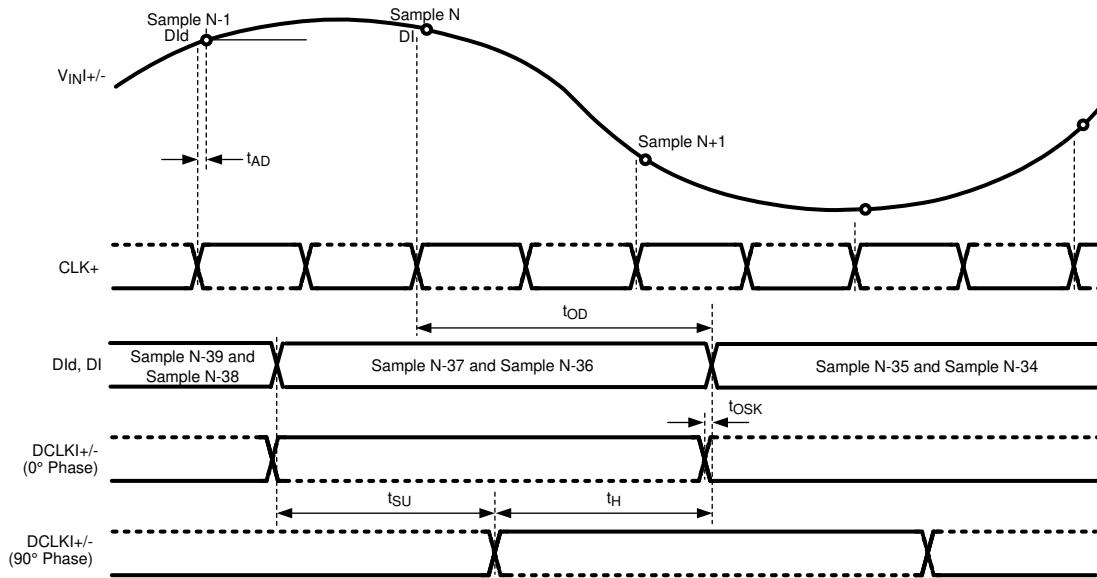
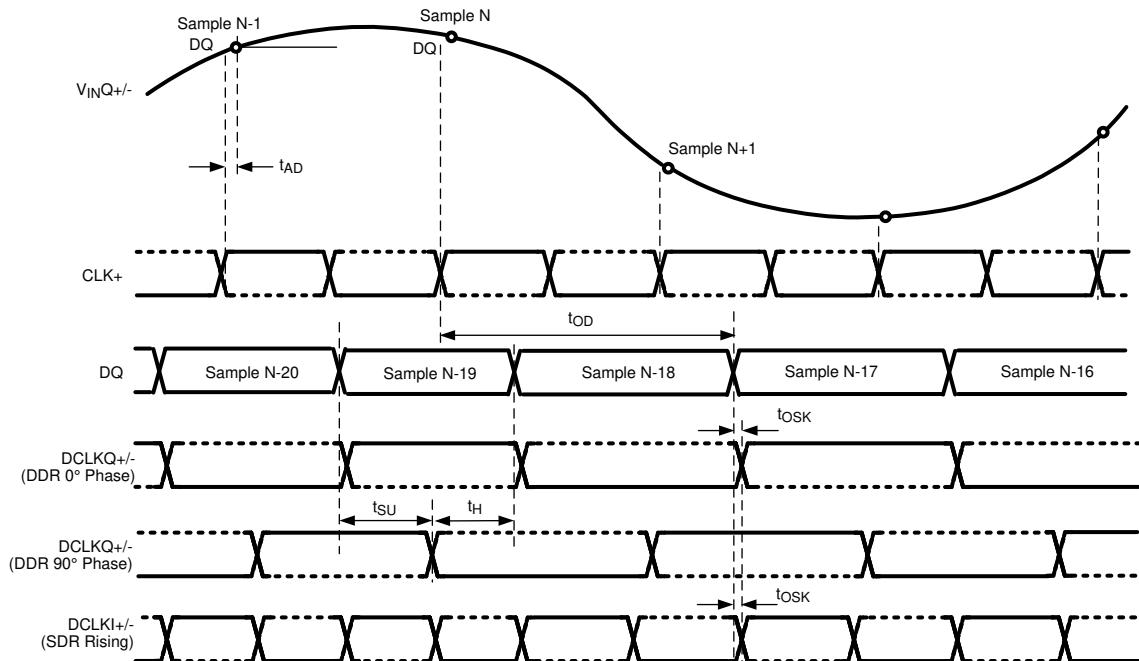

Figure 6-1. Clocking in Non-LSPSM, 1:2 Demux, Non-DES Mode*
Figure 6-6. Clocking in LSPSM, Non-Demux Mode, Non-DES Mode*
* The timing for Figure 6-1 through Figure 6-6 is shown for the one input only (I or Q). However, both I and Q inputs may be used. For this case, the I channel functions precisely the same as the Q channel, with V_{inI} , $DCLKI$, DId , and DI instead of V_{inQ} , $DCLKQ$, DQd , and DQ . Both I and Q channel use the same CLK.